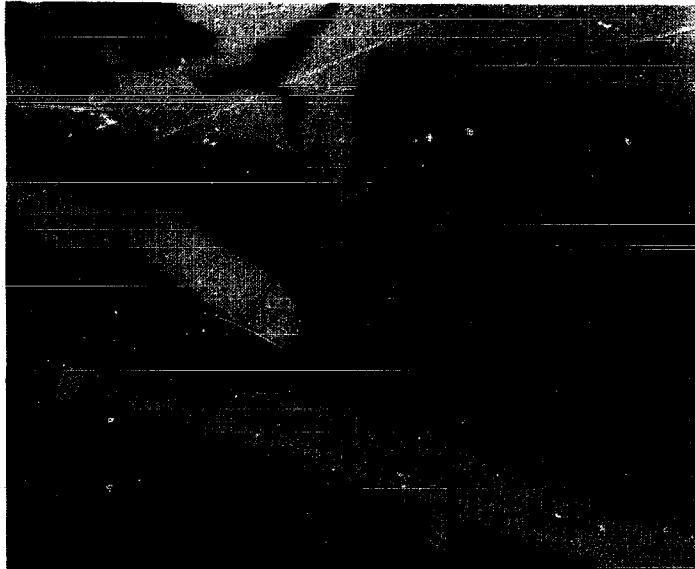

FIGURE 3
5. Pull the capacitors from the capacitor brackets as illustrated in Figure 3.